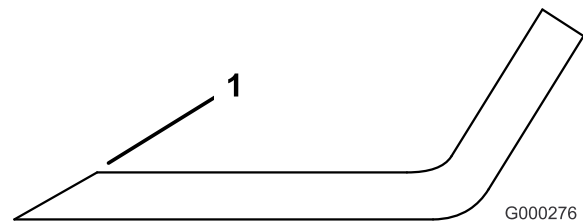

Figure 88
- Use a file to sharpen the cutting edge at both ends of the blade (Figure 88). Maintain the original angle. The blade retains its balance if the same amount of material is removed from both cutting edges.